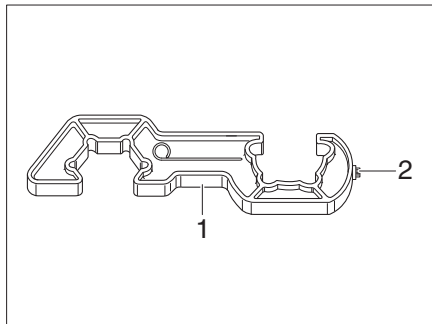
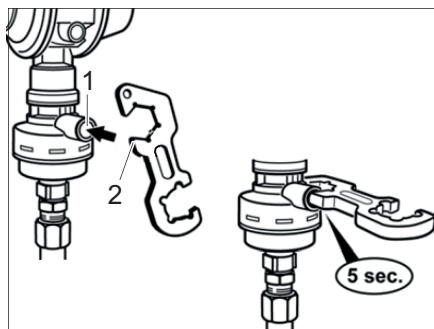

Fig. 254 Screw aid
Fig. 255 Crash sensor
- ▶ Use the enclosed screw aid (Fig. 254,1) to connect and disconnect the high-pressure hoses. It ensures the required tightening torque and prevents damage to the screw connection through using unsuitable tools.
- Unscrew the high-pressure hose (Fig. 251,3) from the gas bottle using the screw aid (Fig. 254).
- If necessary, press the reset button (Fig. 255, 1) at the crash sensor.
- Using the screwing aid (Fig. 255,2) or a similar suitable object, press the release button (Fig. 255,1) and hold it for 5 seconds.
- Using the screwing aid (Fig. 254,2) or a similar suitable object, press the release button (Fig. 255,1) and hold it for 5 seconds.